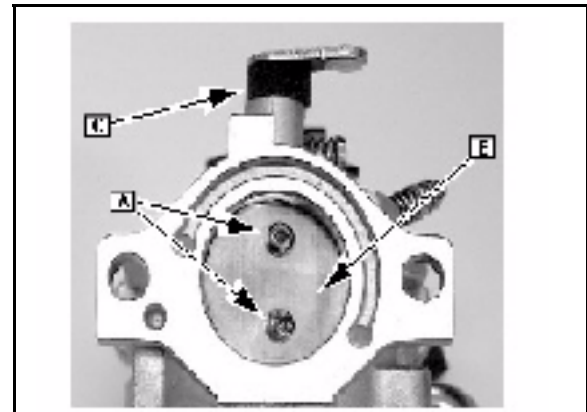

Fig. 136
9. Remove two screws (A) and throttle plate (B) and pull the throttle shaft ([C] Fig. 136) from the carburetor body.